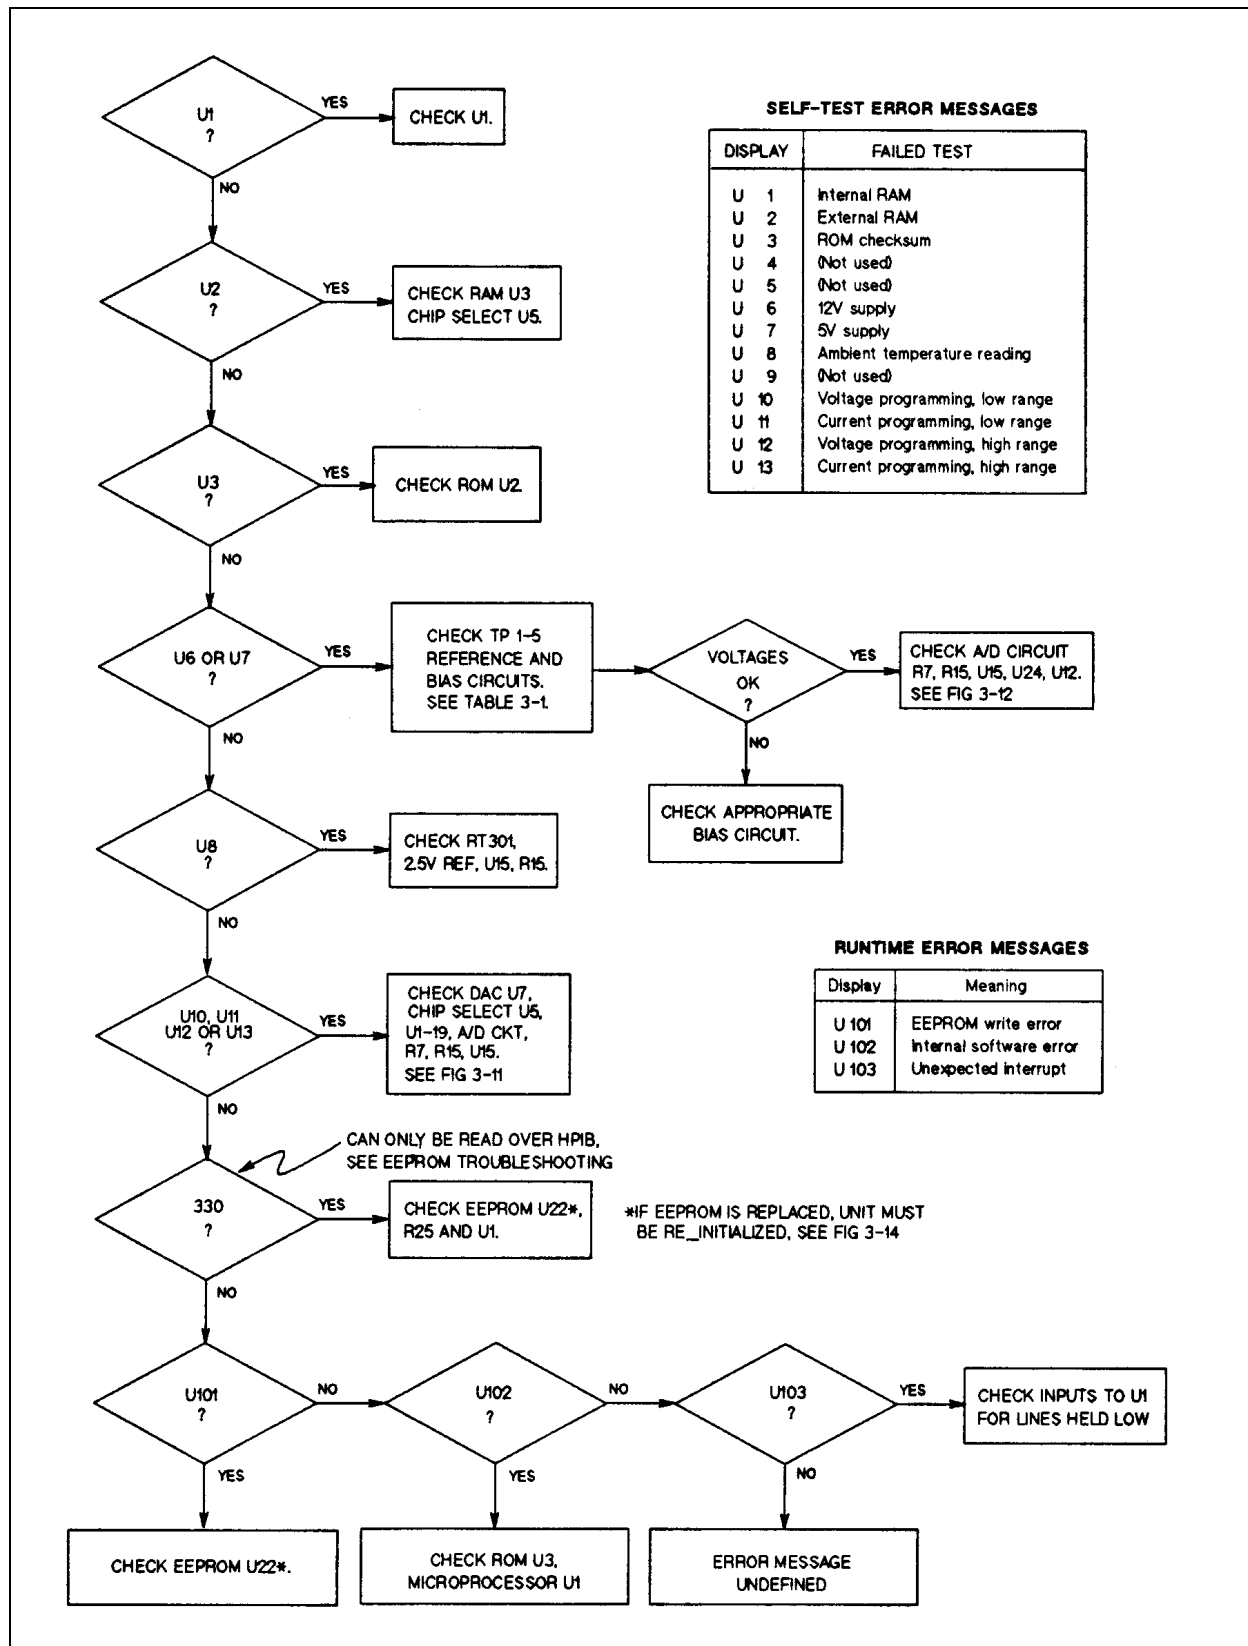

Figure 3-3. Troubleshooting Error Messages
- Figure 3-3 - Troubleshooting Error Messages
If you experienced a selftest failure or runtime error message as described in Chapter 3 of the *Power Module User's Guide*, disassemble the module and proceed directly to the flowchart in Figure 3-3 "Troubleshooting Error Messages".